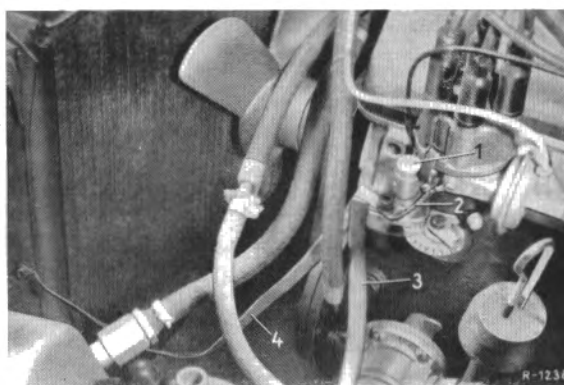

Fig. 82-20/5
16. 1 Ground strap Part No. 180 540 00 41 from the engine to the left radiator mounting (Fig. 82-20/5).